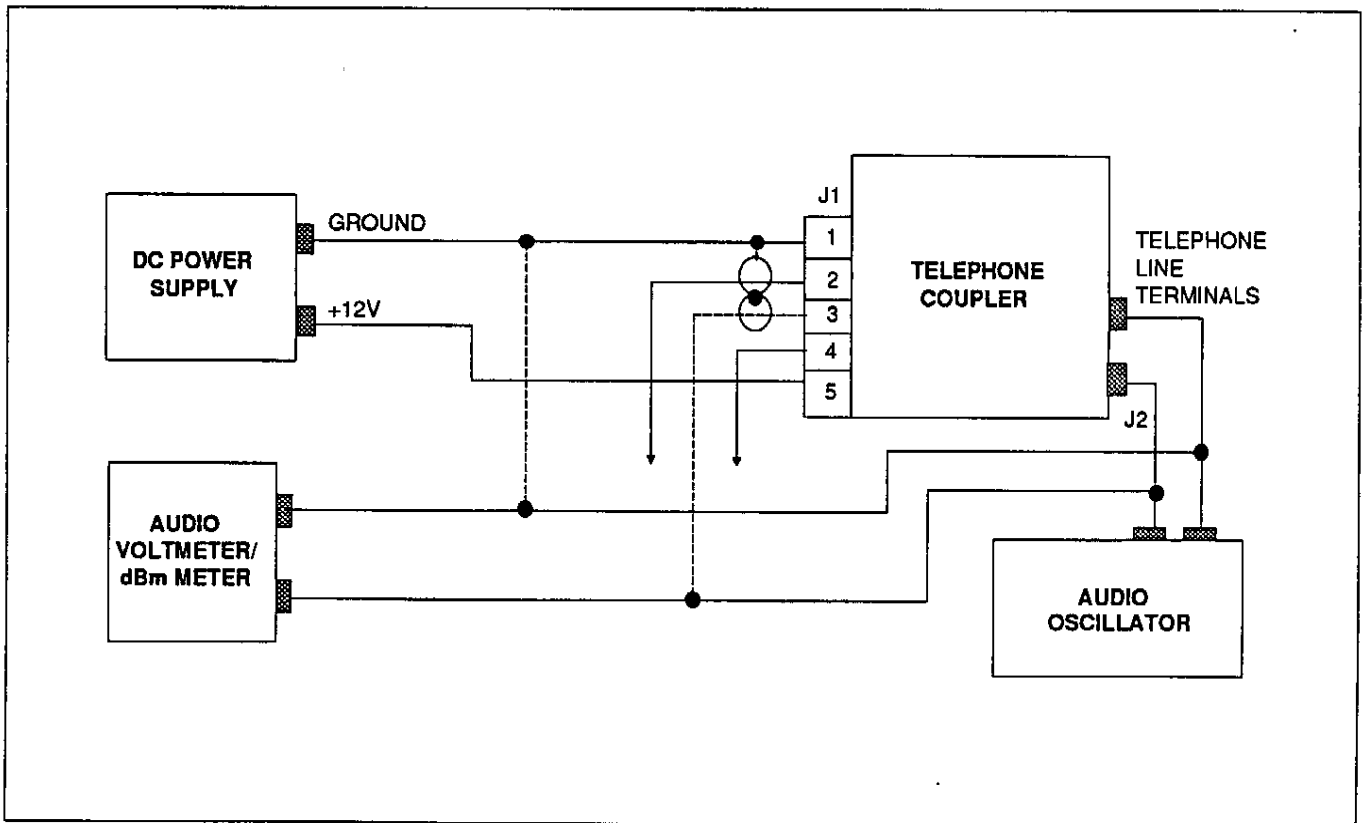

FIGURE 8. Transmit Check.
1. Connect the equipment as shown in Figure 8.